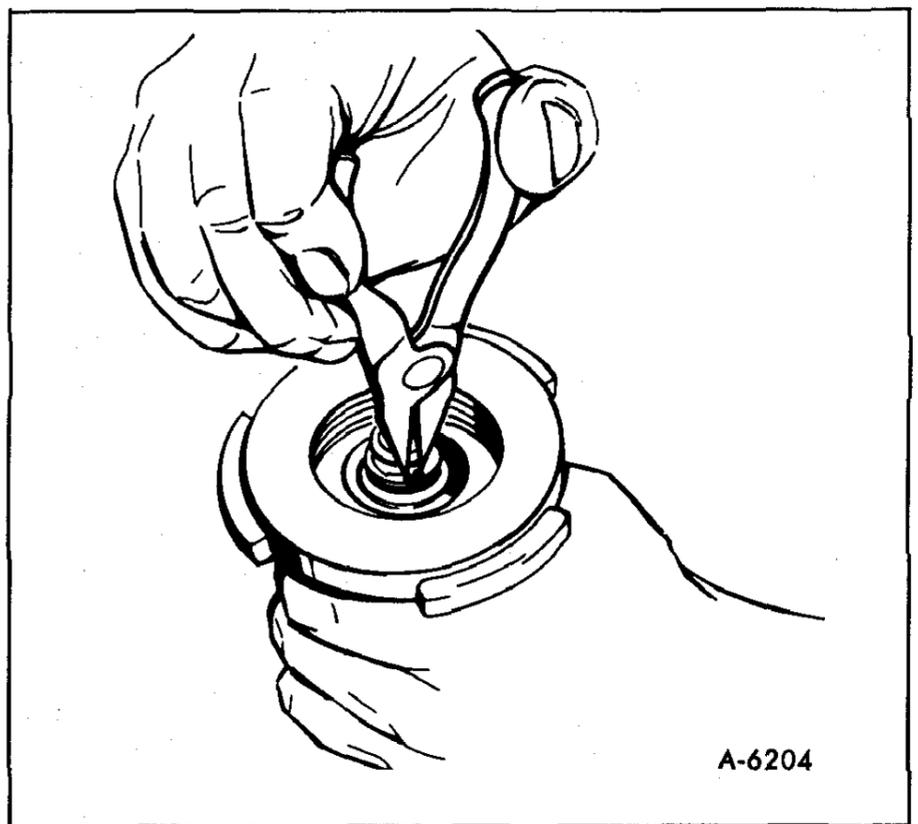

Figure 17—Removing Retaining Ring from Air Valve
16. Using snap ring pliers J-4880, remove the retaining ring from the air valve (figure 17).
6. Using Snap Ring Pliers J-4880, place the retaining ring into the groove in the air valve (figure 17).